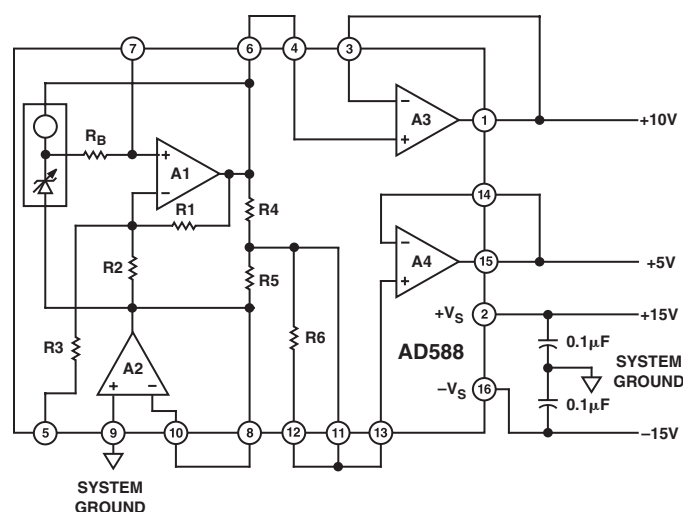
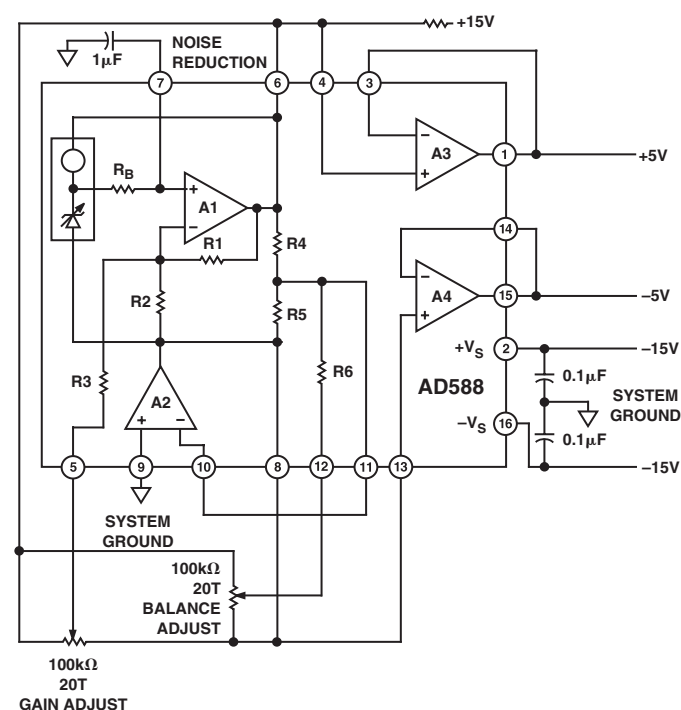
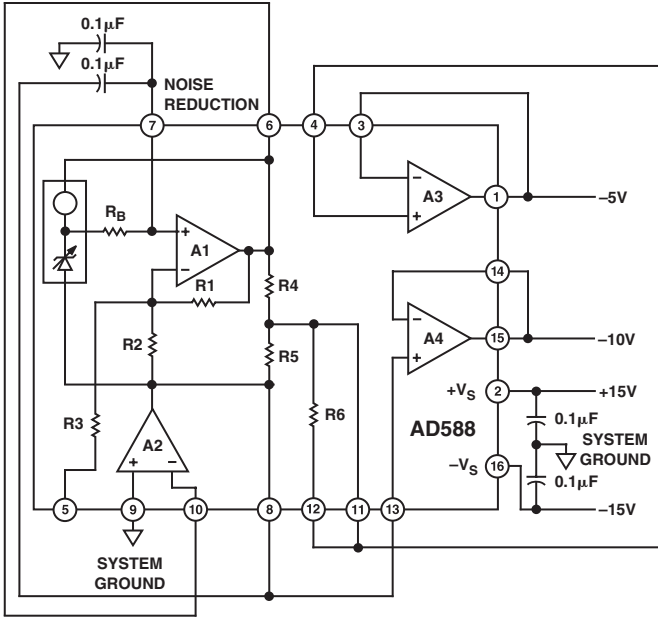
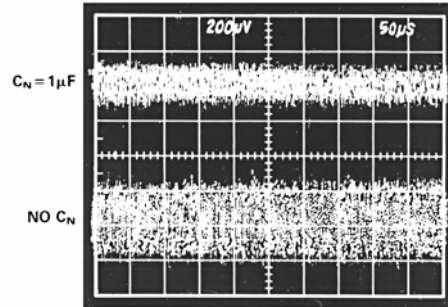

Figure 2a. +10 V Output
Figure 2b. +5 V and -5 V Outputs
Figure 2c. -10 V Output
Figure 4. Effect of 1 μF Noise Reduction Capacitor on Broadband Noise
+10 V	Figure 2a
-10 V	Figure 2c
+5 V, -5 V, ±5 V	Figure 2b
The AD588 can be configured to provide +10 V and -10 V reference outputs as shown in Figures 2a and 2c, respectively. It can also be used to provide +5 V, -5 V, or a ± 5 V tracking reference, as shown in Figure 2b. Table I details the appropriate pin connections for each output range. In each case, Pin 9 is connected to system ground and power is applied to Pins 2 and 16.
The architecture of the AD588 provides ground sense and uncommitted output buffer amplifiers that offer the user a great deal of functional flexibility. The AD588 is specified and tested in the configurations shown in Figure 2a. The user may choose to take advantage of the many other configuration options available with the AD588. However, performance in these configurations is not guaranteed to meet the extremely stringent data sheet specifications.
As indicated in Table I, a +5 V buffered output can be provided using amplifier A4 in the +10 V configuration (Figure 2a). A -5 V buffered output can be provided using amplifier A3 in the -10 V configuration (Figure 2c). Specifications are not guaranteed for the +5 V or -5 V outputs in these configurations. Performance will be similar to that specified for the +10 V or -10 V outputs.
Amplifiers A3 and A4 can be used interchangeably. However, the AD588 is tested (and the specifications are guaranteed) with the amplifiers connected as indicated in Figure 2a and Table I. When either A3 or A4 is unused, its output force and sense pins should be connected and the input tied to ground.
Figure 2b shows GAIN and BALANCE trims in a +5 V and -5 V tracking configuration. A 100 k Ω 20-turn potentiometer is used for each trim. The potentiometer for GAIN trim is connected between Pin 6 (V_{HIGH}) and Pin 8 (V_{LOW}) with the wiper connected to Pin 5 (GAIN ADJ). The potentiometer is adjusted to produce exactly 10 V between Pin 1 and Pin 15, the amplifier outputs. The BALANCE potentiometer, also connected between Pin 6 and Pin 8 with the wiper to Pin 12 (BAL ADJ), is then adjusted to center the span from +5 V to -5 V.
If further noise reduction is desired, an optional capacitor, C_N , may be added between the NOISE REDUCTION pin and ground, as shown in Figure 2b. This will form a low-pass filter with the 4 kΩ R_B on the output of the Zener cell. A 1 μF capacitor will have a 3 dB point at 40 Hz and will reduce the high frequency (to 1 MHz) noise to about 200 μV p-p. Figure 4 shows the 1 MHz noise of a typical AD588 both with and without a 1 μF capacitor.
Note that a second capacitor is needed in order to implement the NOISE REDUCTION feature when using the AD588 in the -10 V mode (Figure 2c.). The NOISE REDUCTION capacitor is limited to 0.1 μF maximum in this mode.